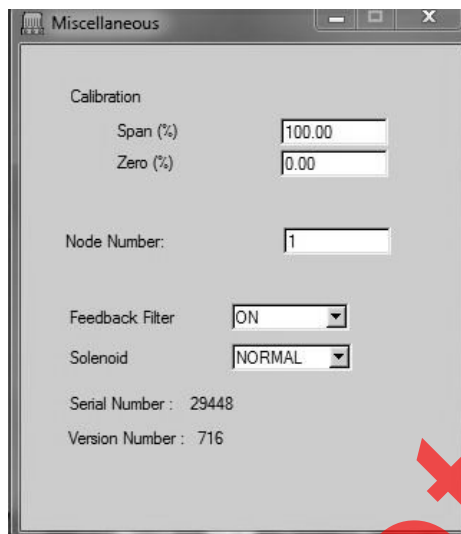

Figure 16 Miscellaneous Window
7. See Figure 16. In the *Miscellaneous* window, adjust the settings as follows: